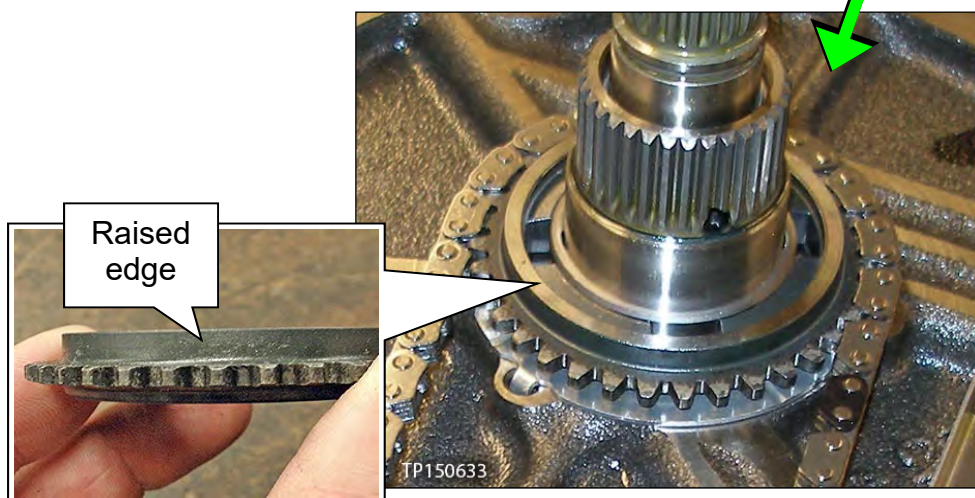

Figure 130
- Make sure the raised edge (wider edge) on the drive sprocket is facing up (Figure 130).